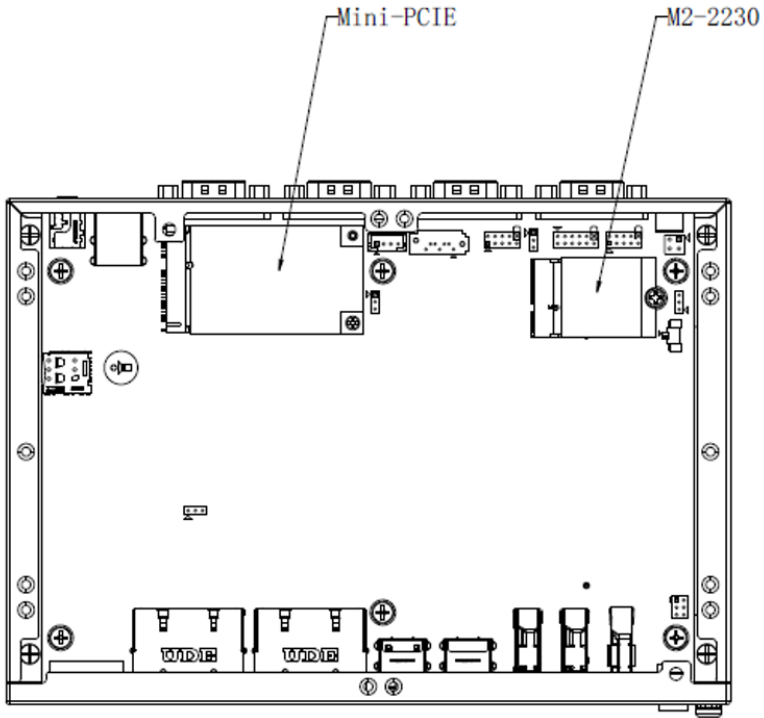

Figure 3.2-2 Install and Remove key parts
3. Remove the Mini-PCIE module: Remove 1 flat-head M2x3 screw and remove the M2-2230 WiFi module, as shown in Figure 3.2-2.